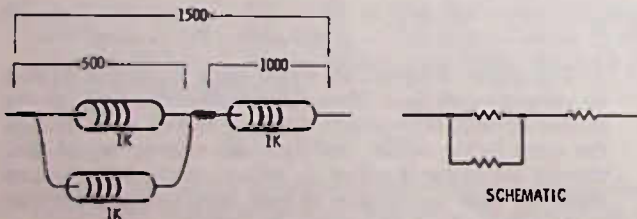

Fig. A-2.
46. D. Connecting two 1000-ohm resistors in parallel makes 500 ohms, then connecting 1000 ohms in series with this parallel combination makes 1500 ohms. See Fig. A-2.